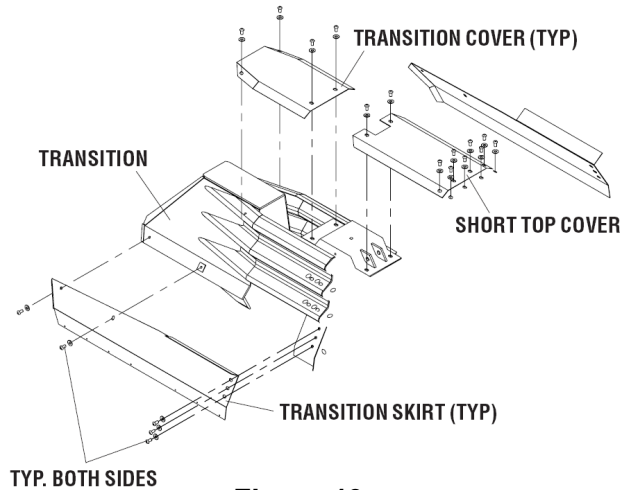

Figure 19
1) Temporarily remove the transition skirts and short top covers on the transition assembly (Figure 19).